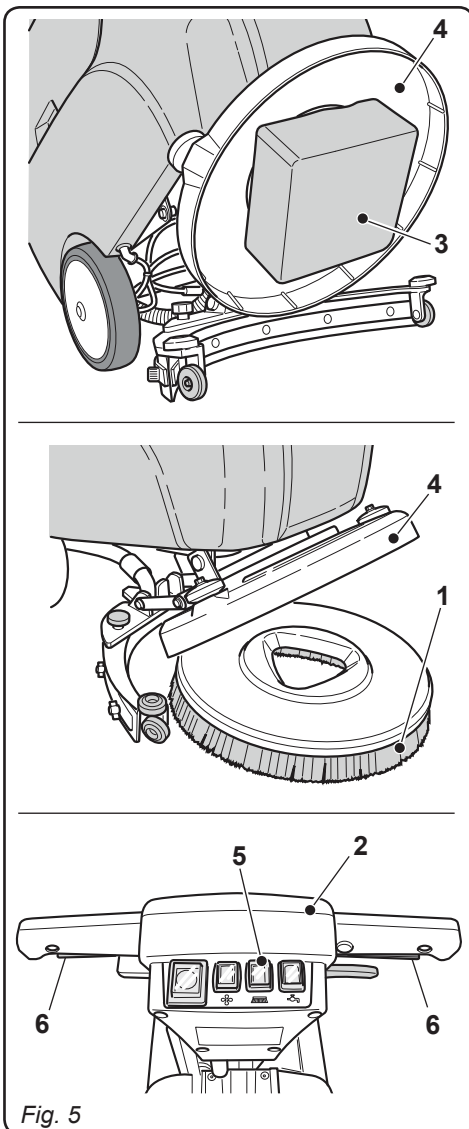

Fig. 5
- Unscrew the bolts (3) that fasten the tank (4) to the handle support.
- Remove the recovery water tank (4) and connect the battery connectors (5) and (6).
- Replace the recovery water tank (4).
3.1.c - Assembling the brush (Fig. 5)
- Position the brush (1) on the ground.
- Lift the front of the machine up by levering the handle (2) and remove the polystyrene support (3).
- Position the flange (4) above the brush (1).
- Press the button (5) that illuminates, then, for starting the rotation of the brush, press the levers (6) until hearing the coupling "Click" of the attachment of the brush, then release levers (6) and press the button (5) and the light turns off.